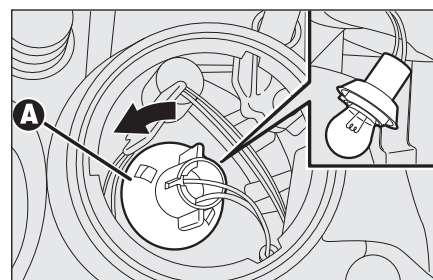

fig. 28
- ☐ turn the bulb holder **A**-fig. 28 counterclockwise, remove the bulb and replace it;